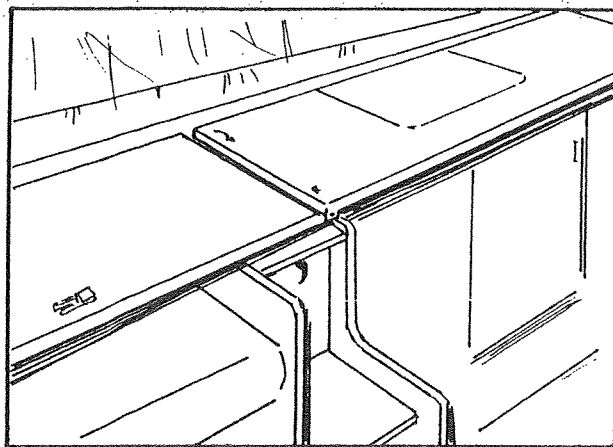

FIGURE 12
20. Figure 12 depicts the bathroom walls in their closed or travel position.